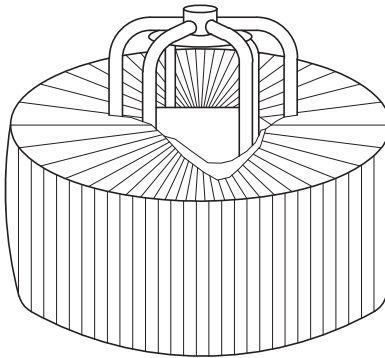

FIGURE 2
- ONCE THE CABLE IS PLACED ON THE STEM, A SWIVEL CAN BE PLACED IN THE TOP OF THE STEM FOR TRANSPORT AND CABLE PAYOFF (SEE FIGURE 2).